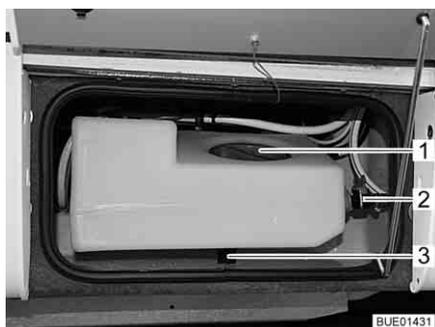
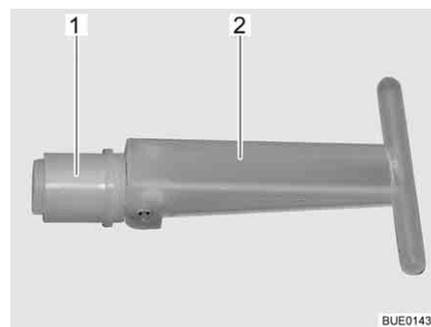

Fig. 199 Auxiliary water tank
Fig. 200 Stopper
When the emptying valve (Fig. 199,2) is open, the fill quantity of the auxiliary water tank is limited to approximately 30 litres; excess water will drain off. When the emptying valve is shut, the entire tank volume is available.
When the stopper (Fig. 200,1) is pulled in the inside of the auxiliary water tank, the water drains away via the drain (Fig. 199,3). The stopper can be accessed via the service opening (Fig. 199,1).
- Ensure that the stopper (Fig. 200,1) in the auxiliary water tank is shut (handle (Fig. 200,2) is folded out).
- Ensure that the emptying valve (Fig. 199,2) is shut.
- Open the service opening (Fig. 199,1) in the auxiliary water tank.
- Access the handle (Fig. 200,2) of the stopper (Fig. 200,1) via the service opening, turn the handle to the vertical position and remove the stopper.
- Open the emptying valve (Fig. 199,2) on the auxiliary water tank.